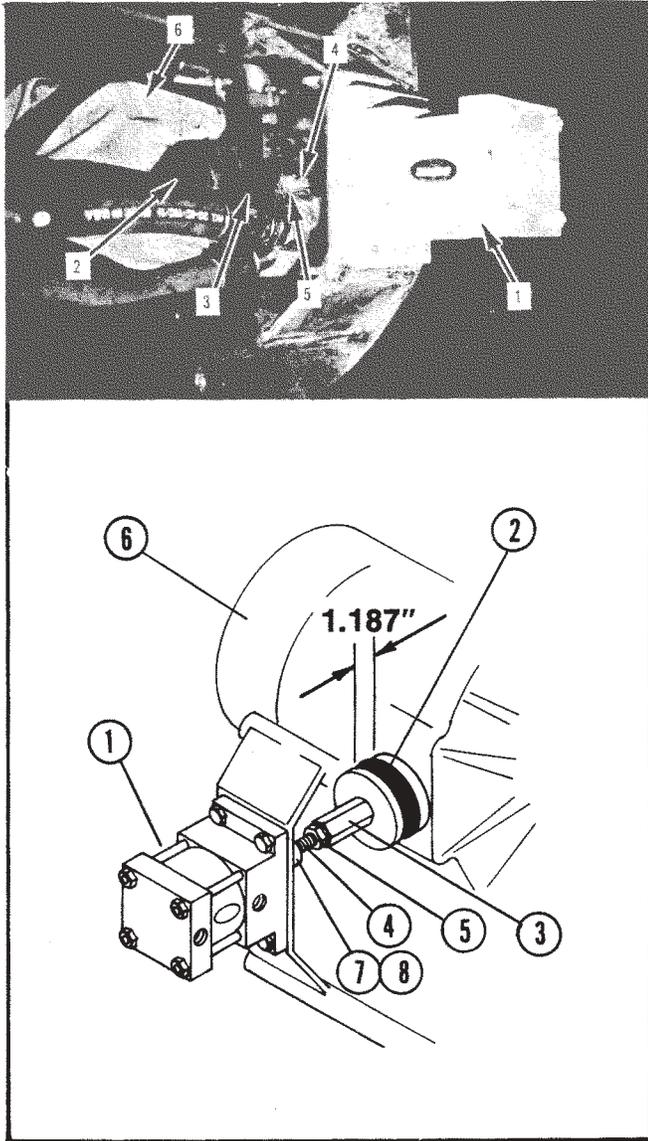

Figure 34. Brake Cylinder - 2WD and 4WD
5. Push control stick forward slightly. Chipspreader should not move but brakes should release. (Brake cylinders should extend fully). See Figure 34.